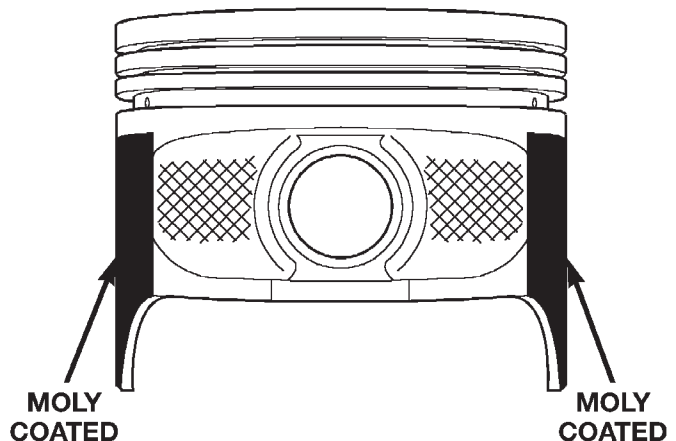
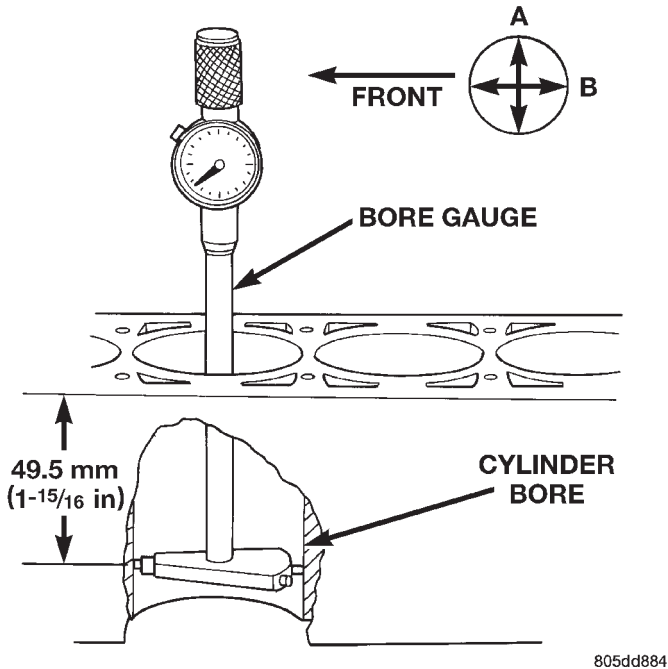

Fig. 10 Moly Coated Piston
Fig. 11 Bore Gauge—Typical
(1) To correctly select the proper size piston, a cylinder bore gage, capable of reading in 0.003 mm (.0001 in.) INCREMENTS is required. If a bore gage is not available, do not use an inside micrometer.
(2) Measure the inside diameter of the cylinder bore at a point 49.5 mm (1-15/16 inches) below top of bore. Start perpendicular (across or at 90 degrees) to the axis of the crankshaft at point A and then take an additional bore reading 90 degrees to that at point B (Fig. 11).
(3) The coated pistons will be serviced with the piston pin and connecting rod pre-assembled. Tin coated pistons should not be used as replacements for coated pistons.
(4) The coating material is applied to the piston after the final piston machining process. Measuring the outside diameter of a coated piston will not provide accurate results (Fig. 10). Therefore measuring the inside diameter of the cylinder bore with a dial Bore Gauge is **MANDATORY**. To correctly select the proper size piston, a cylinder bore gauge capable of reading in 0.003 mm (.0001 in.) increments is required.
(5) Piston installation into the cylinder bore requires slightly more pressure than that required for non-coated pistons. The bonded coating on the piston will give the appearance of a line-to-line fit with the cylinder bore.